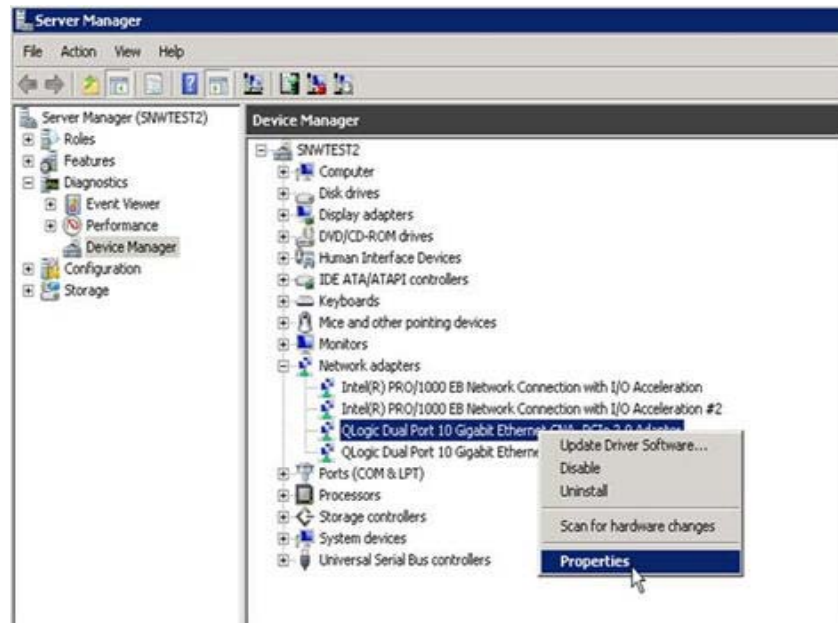

Figure 41: Selecting Properties from the Context Menu
3. Right-click the first **QLogic 10 Gigabit Ethernet CNA** device and select **Properties** from the context menu (Figure 41).